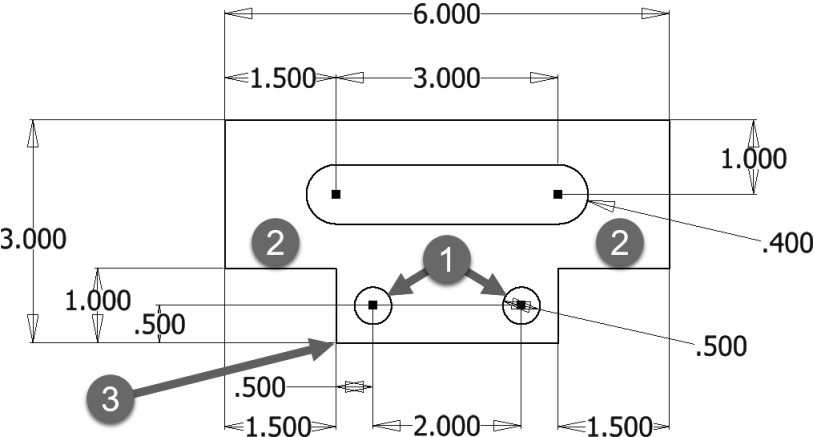

Figure 2.94
- 14** Apply a horizontal constraint between the center points of the two circles labeled (1) in Figure 2.94.
- 15** Apply a collinear constraint between the two middle horizontal lines labeled (2).
- 17** The sketch is free to move. To constrain the sketch to the origin, drag the lower-left corner of the sketch labeled (3) in the following image to the origin point of the sketch (0,0). Or you could add a coincident constraint between the origin point and the left point on the bottom line.